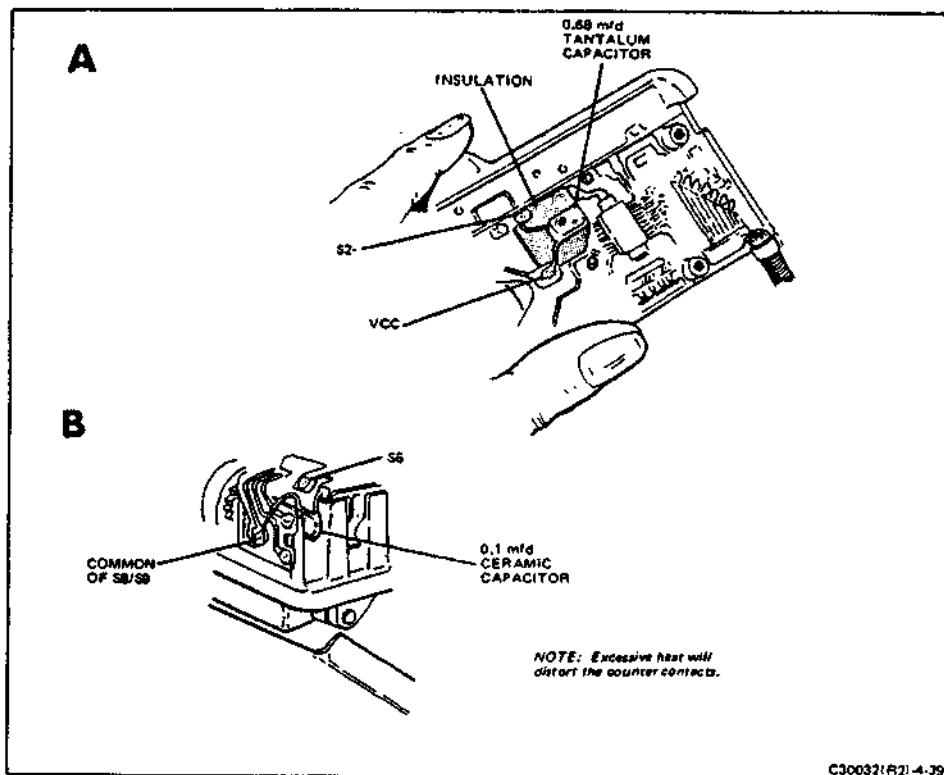

FIGURE 4-39 NOISE SUPPRESSION MODIFICATION
Some shutters have exhibited a mid-cycle shutdown which has been traced to motor noise. T.I. shutters without motor capacitors are most susceptible to this problem. The installation of a capacitor between the VCC terminal and ground on the shutter (Figure 4-39"A") suppresses noise and reduces the problem. If after installing the capacitor the mid-cycle shutdown persists, install a second capacitor between S6 and the counter (Figure 4-39"B"). Any suitable commercial tantalum 0.68 mfd capacitor may be used on the substrate and any suitable subminiature commercial ceramic 0.1 mfd may be used on the counter. These parts may be ordered from the Waltham Parts Department under the following numbers.
- To prevent shorting, place a small piece of insulating tape or .001 mylar on the substrate, in the area indicated by the black shading in Figure 4-39 "A".
- If the mid-cycle shutdown still persists, add a second ceramic capacitor between S6 and the common of S8/S9 on the counter (Figure 4-39 "B").